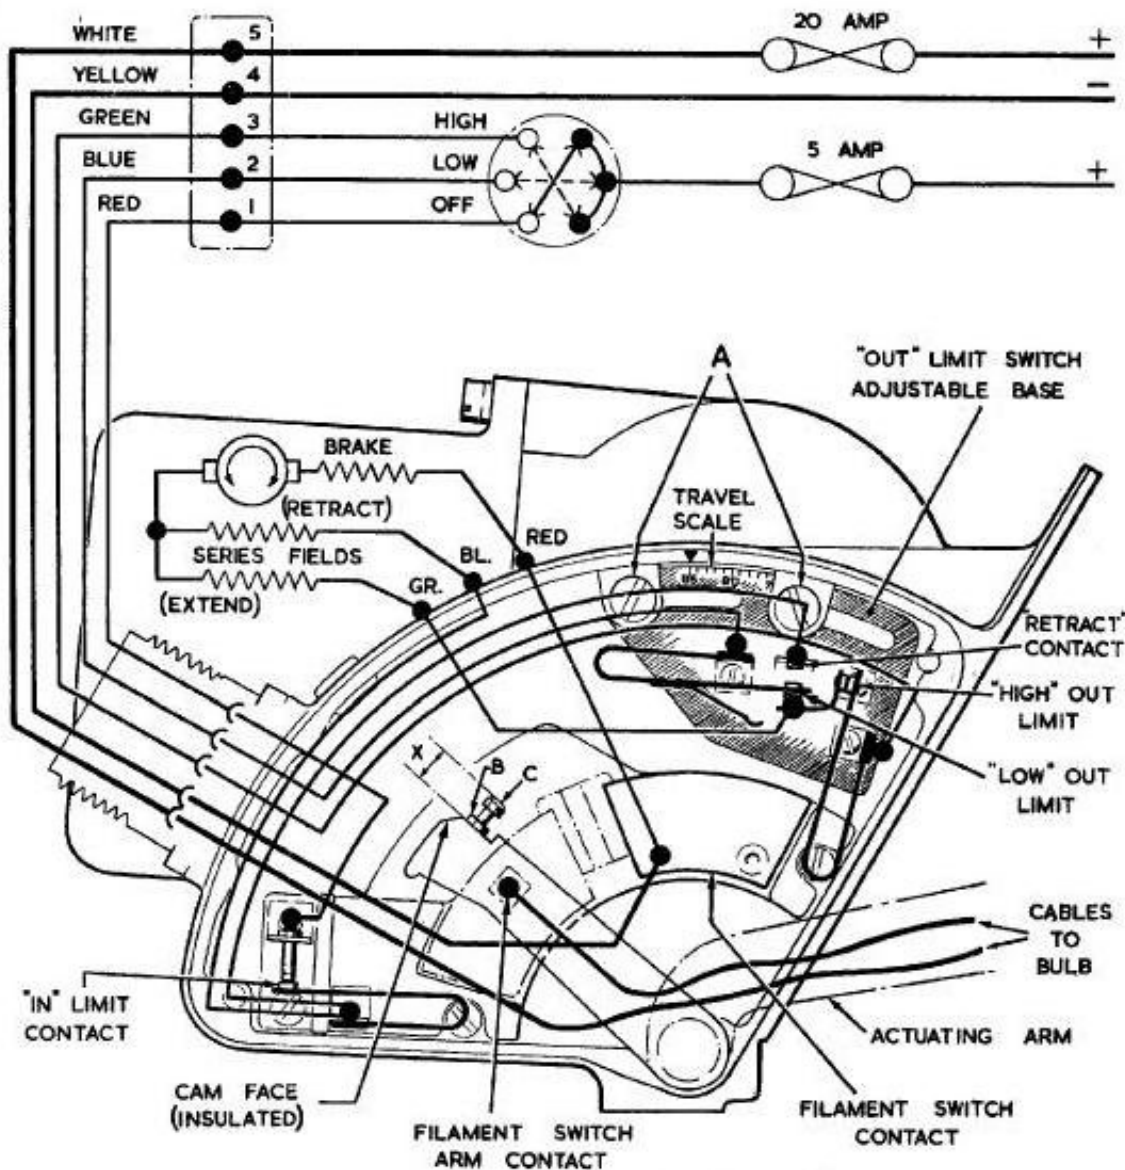

Fig. 2. Switchbox adjustments and circuit diagram
Switchbox (fig. 2)
8. Remove the cover of the switchbox and slacken the screws marked "A" in fig. 2. Slide the insulated base of the "out" limit switches to the new position and tighten the
Electrical connections (fig. 2)